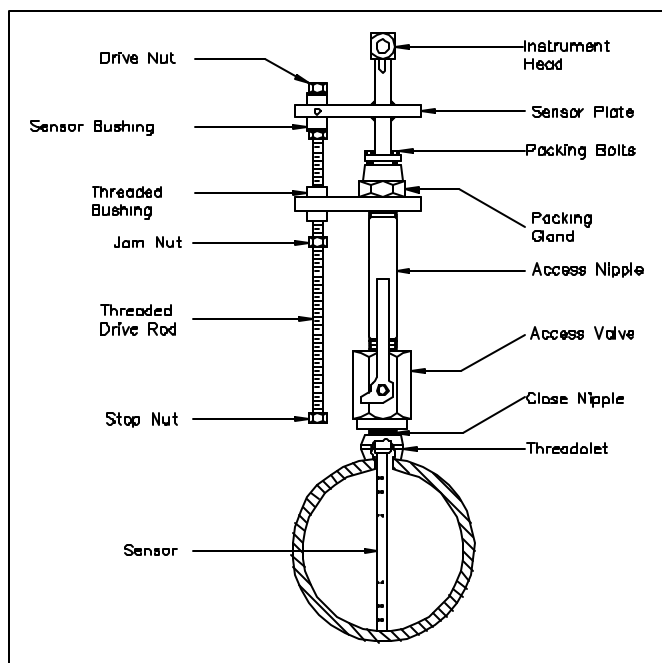

Figure 7. Installed V200 (Single)
- High temperature grease has been applied to the threaded rod(s) at the factory. Verify the threaded rod is adequately greased prior to inserting the sensor. If necessary, smear grease on the threaded drive rod(s). Grease should also be applied to the zerk fitting located on the threaded bushing (Figure 7). A high temperature grease should be used on all steam applications and for temperatures above 200°.
The Verabar is now properly installed (Figure 7).